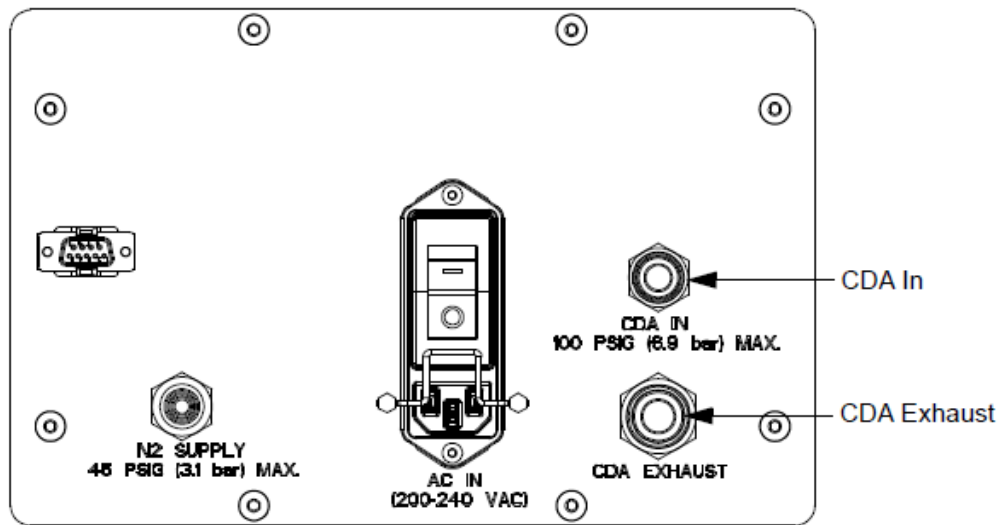

Figure 3-9: Pneumatic Connections
1.	Connect the compressed air line from the facility to the 10 mm "CDA in" air connection on the MMX system's Pneumatic Facilities Panel as shown in Figure 3-9 .
1.	Connect the exhaust line from the facility to the 10 mm quick connect EXH connection on the MMX system's Pneumatic Manifold as shown in Figure 3-9 .